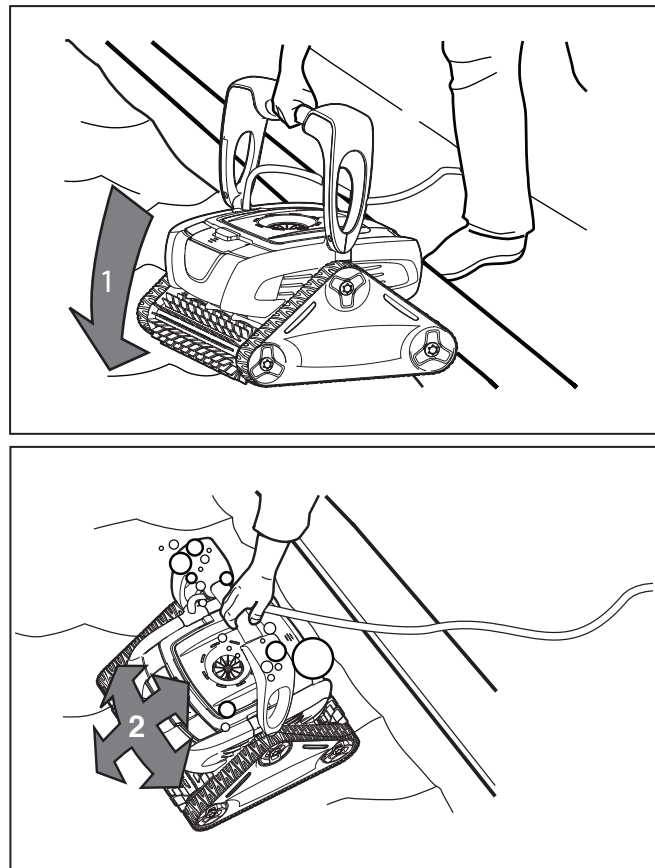

Figure 12. Submerge and Remove Trapped Air
1. Submerge cleaner vertically (1) and hold it under the surface, moving gently from side to side (2) until the bubbles stop to remove any air trapped inside (Figure 12).